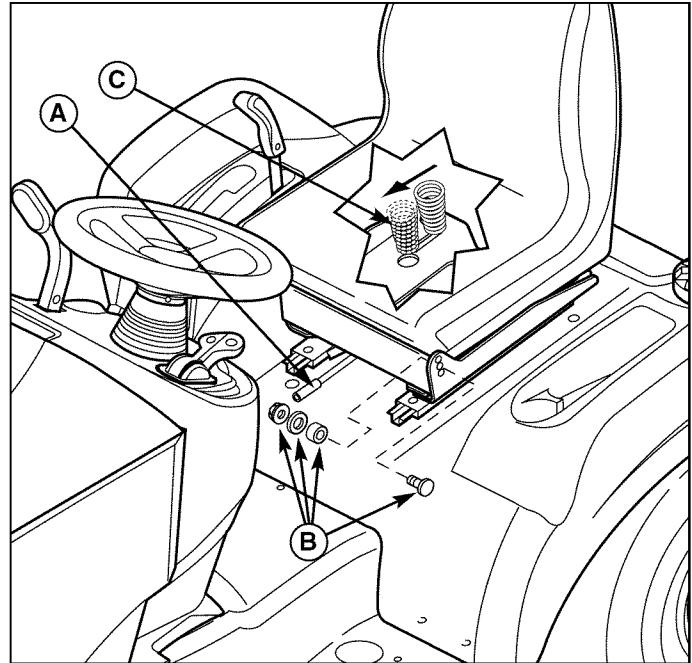

Figure 43. Seat Adjustment
The pitch of the seat can be adjusted to one of three positions. To adjust, remove the carriage bolts, spacers, washers, and nuts (B, Figure 43) from the hinge and reinstall them in the desired holes.
The seat can also be adjusted forward and back. Move the lever (A, Figure 43), position the seat as desired, and release the lever to lock the seat into position.
The seat springs (C, Figure 43) can be adjusted to provide a softer or firmer ride. Tilt the seat forward and slide the spring assembly (C) forward for a softer ride, and back for a firmer ride.